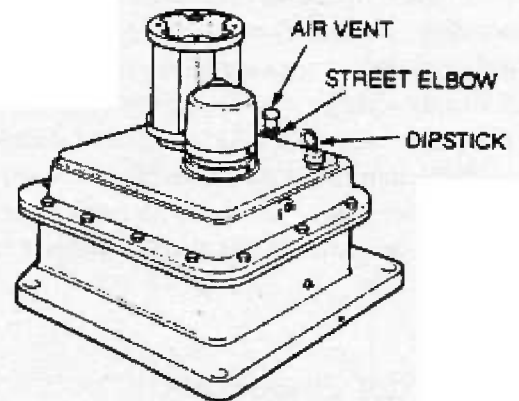

Figure 8 — HGD reducer preparation
- a. Refer to Fig. 8. Remove the pipe plug from the input-housing half and replace it with the street-elbow and air-vent assembly as shown. Seal the threads with pipe compound or teflon tape. Make sure the vent is in the vertical position.
- b. Refer to Fig. 8. Remove the pipe plug from the dipstick opening and replace it with the dipstick bushing.